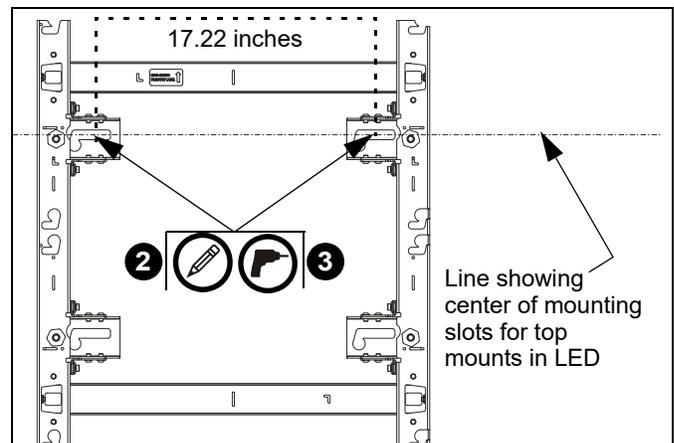

Figure 6
1. Hold furthest left, top wall mount against wall ensuring that mounting slot is lined up with center line marked on the wall in **Determining Installation Site** section. Double-check with a level. (See Figure 6)
2. Mark mounting holes in two top mounting slots along the horizontal line marked in Step 3. (See Figure 6)
NOTE: The mounting holes are 17.22" apart on-center. (See Figure 6)
3. Drill two pilot holes (see Table 1 for size) at each location marked in Step 2 (See Figure 6) and follow fastener information (appropriate for wall type) located in Table 1.
- Hold additional wall mount against wall ensuring that mounting slot is lined up with center line marked on the wall in **Determining Installation Site** section. Double-check with a level. (See Figure 6)
- Mark mounting holes in two top mounting slots along the horizontal line. (See Figure 6)
- The mounting holes are 17.22" apart on-center. (See Figure 6)